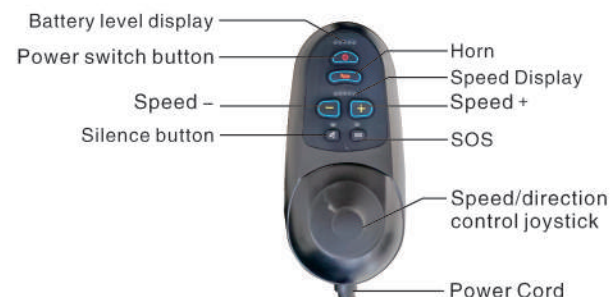

Figure 6
(2)For speed adjustment, there is a speed control button in front of the joystick of the controller. The operator can adjust and determine the speed according to his own situation. Press the left button (speed decrease button) to slow down, and press the right button (speed increase button) to increase speed. Stop when the joystick returns to the middle position (see Figure 6).